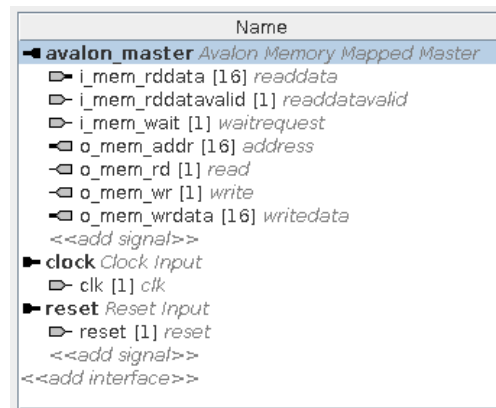

Figure 2: Signal Roles for the Processor Component
4. In the Signals & Interfaces tab, configure the interfaces according to Figure 2. Make sure to associate the clock and reset interfaces with the Avalon Master interface. Note that unlike Lab 4, you need to set the signal roles explicitly, because the signal names do not conform to the special naming scheme.